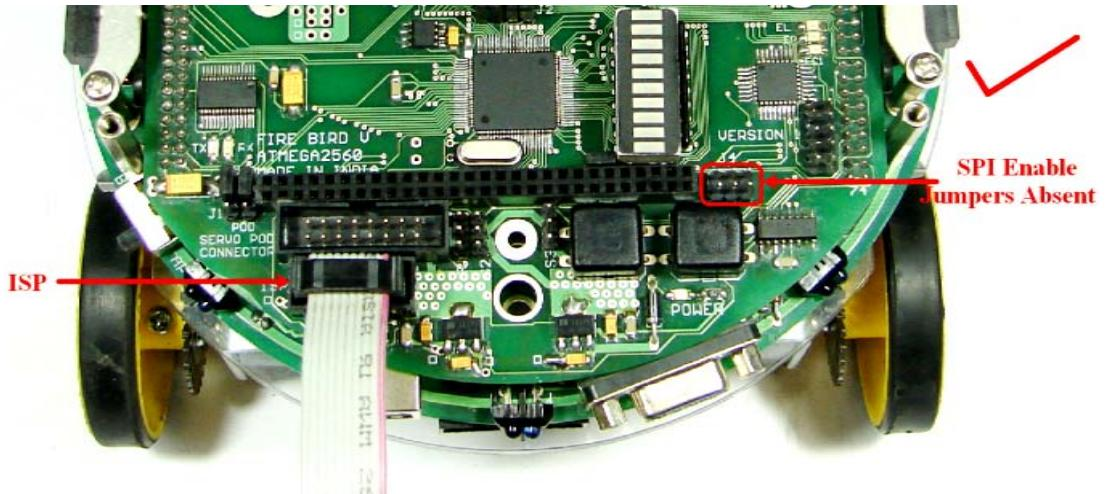
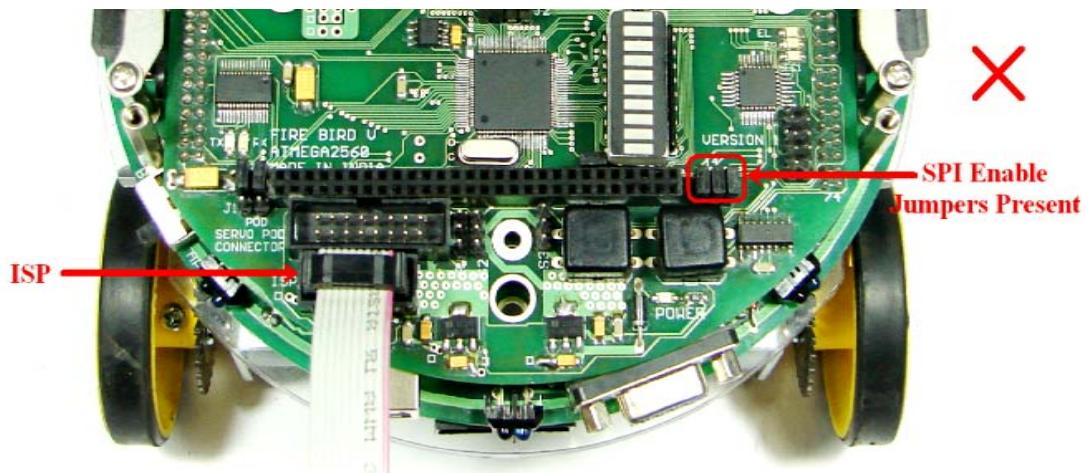

Figure 2.38: Correct jumper setting before proceeding to ISP
Figure 2.39: Incorrect jumper setting before proceeding to ISP
Refer to figure 2.38 and 2.39 for the correct jumper settings before proceeding to ISP. Figure 2.40 shows the ISP socket for the ISP programming.
2. Before loading hex file or reading fuse settings ensure that jumpers at J4 are open as shown in figure 2.38 and are not as shown in figure 2.39.